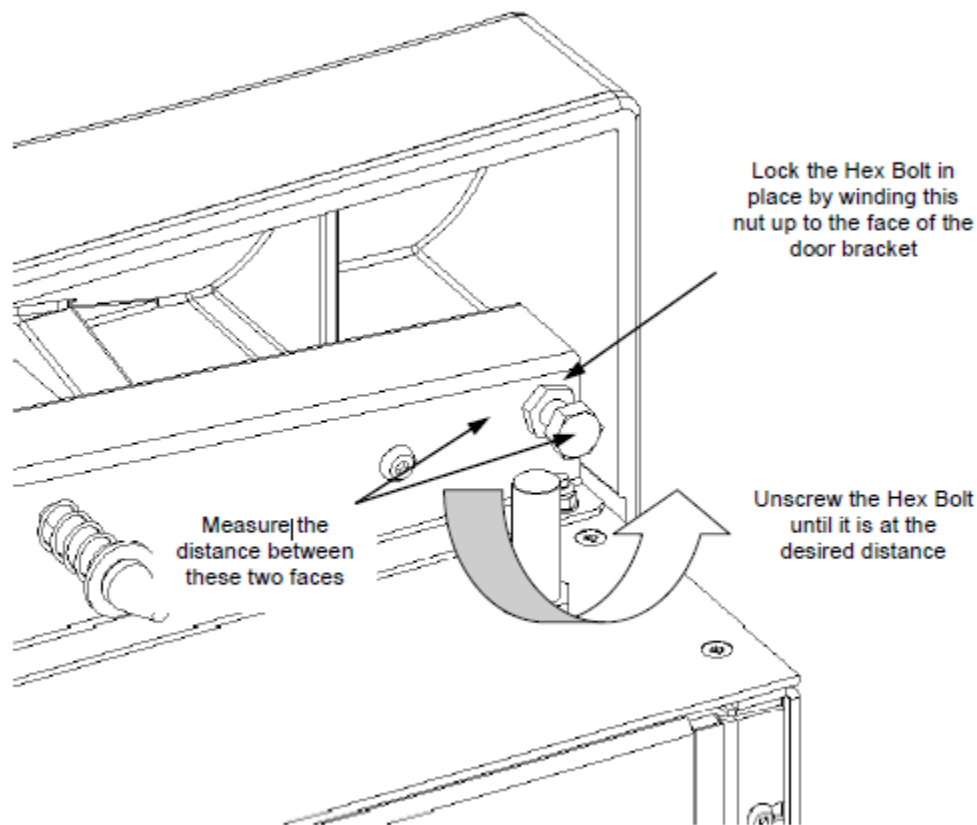

Figure D-9: Adjusting the Upper Stop
9. Hold the upper stop Hex Bolt in place and loosen the Hex Nut that locks it in place (Figure D-9).